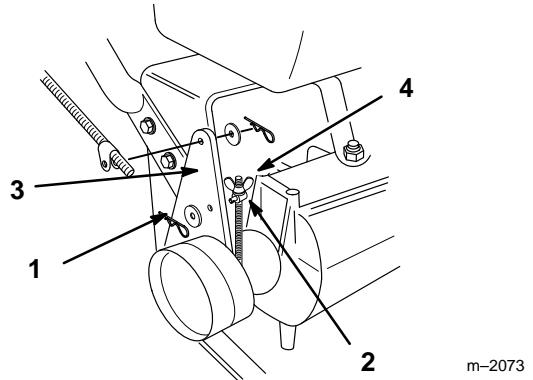

Figure 34
3. To adjust the brake remove the cotter pin and washer from the brake lever (Fig. 34).
4. Rotate the trunnion so it smoothly slides into brake lever (Fig. 34). Tighten wing nut.
5. Secure trunnion to brake lever with washer and cotter pin (Fig. 34).